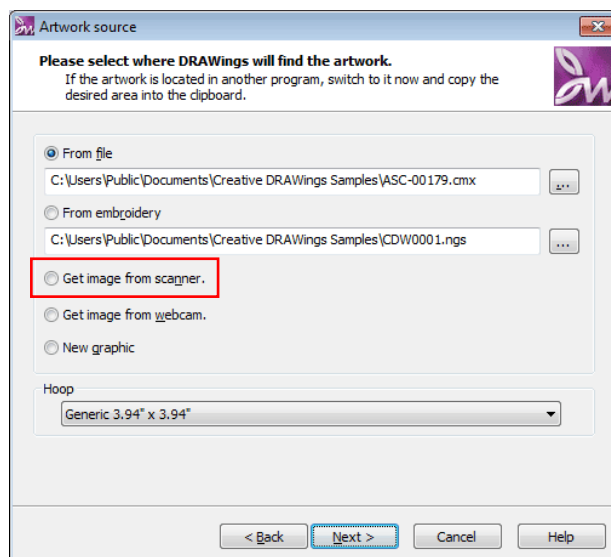

Figure 2.10: Starting dialog - 2nd page
5. The **Artwork source** dialog will appear. (Figure 2.10)